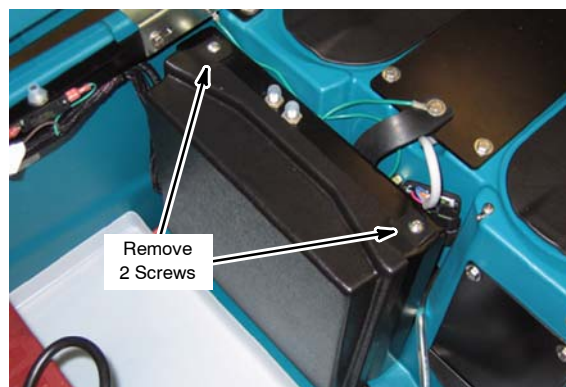

Fig. 3
2. Move to the front of the battery compartment and remove the control box cover to access the wire connections (Figure 3).